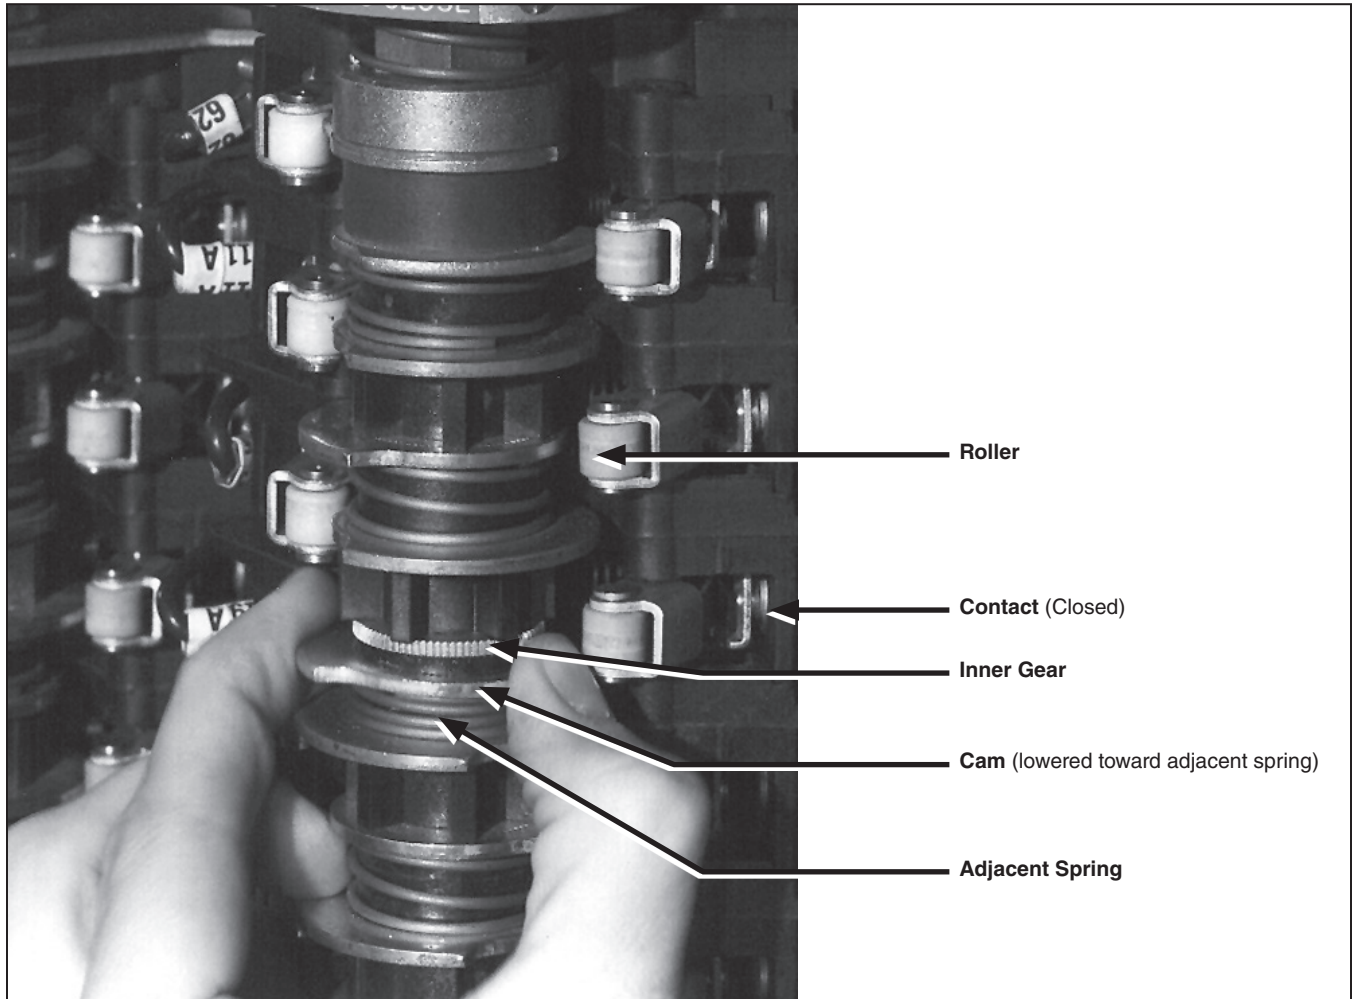

Figure 5. Adjustment of cams on auxiliary switch.
- (a) Raise (or lower) the cam toward its adjacent spring until the cam is separated from the teeth of the inner gear. See Figure 5.